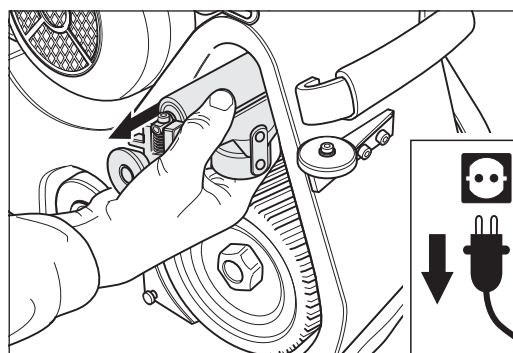

Fig. 70 Carefully remove the drive unit.
- 9 Carefully remove the drive unit (Fig. 70) and clean it. **Never use any cleaning products which contain solvents!**